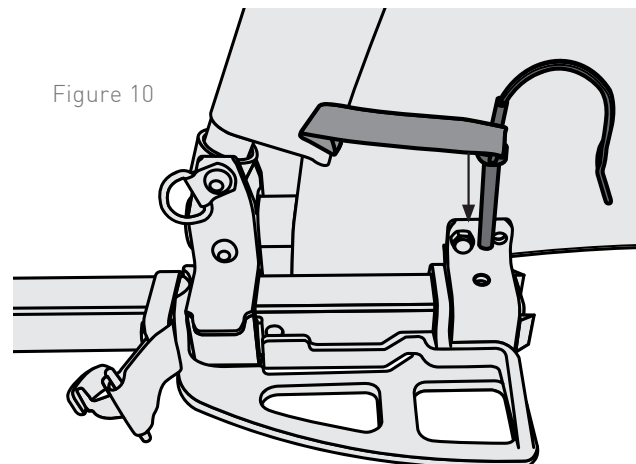

Figure 10
2. Insert the retaining pin from the top through the aligned holes (Figure 10).